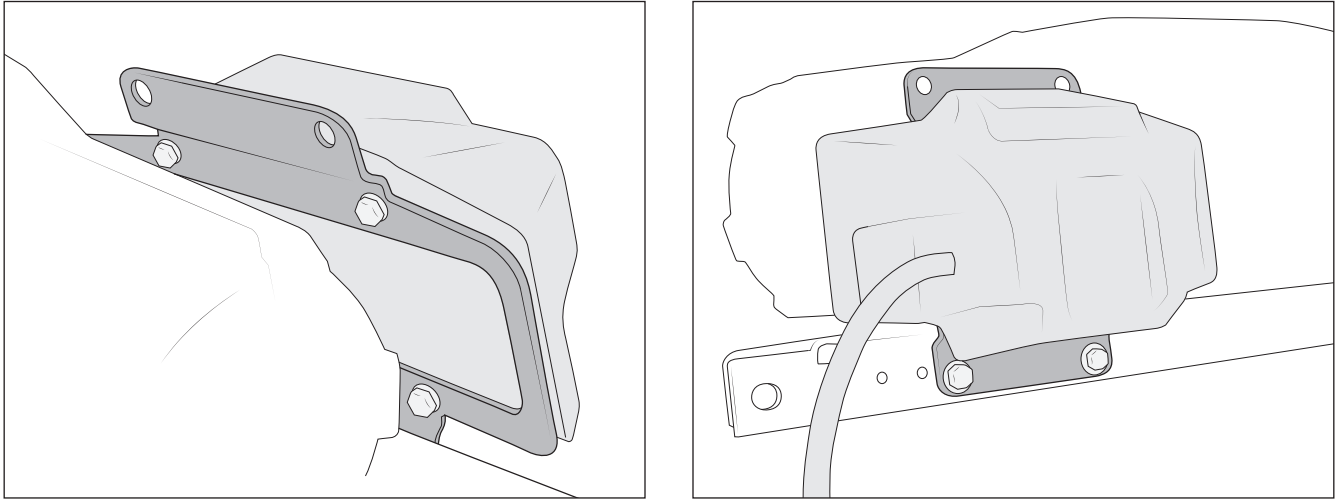

Figure 31
5. Mount bracket supplied in relocation kit to back side of solenoid pack, then attach bracket to winch plate (fig. 31).